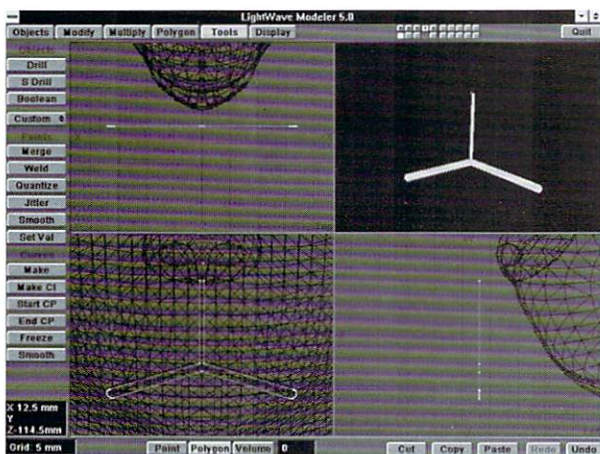

Figure 7
•Just like the nostrils, you just need to plot points to create your mouth polygon. Then with the mouth polygon in the foreground, and the bear head in the background, align the polygon up in the Face View to where you'd like the mouth to appear on the bears face (Figure 7). Then, as with the nostrils, use the Drill/Stencil Tool on the Z-axis to slice in the mouth into the BearHead, giving it the surface name BearMouth. Make sure that before you stencil, the BearHead is in the foreground layer, and the mouth polygon is in the background layer.